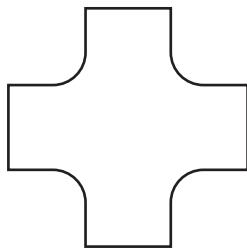

Fig. 7
- (b) Fig. 7 shows an alternative design that was considered for the end of the desk.
Describe **two** problems with the design shown in Fig. 7. [4]